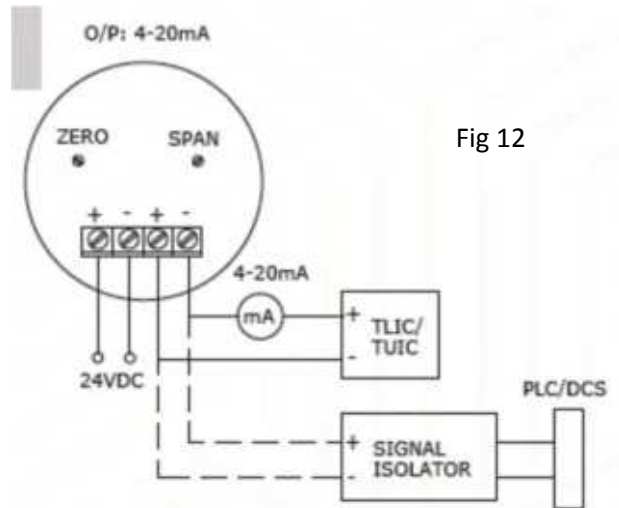

Fig 12
- Open the terminal cover and connect 24 VDC supply to +ve & -ve terminals of transmitter card through multimeter in series. (Refer fig 12)